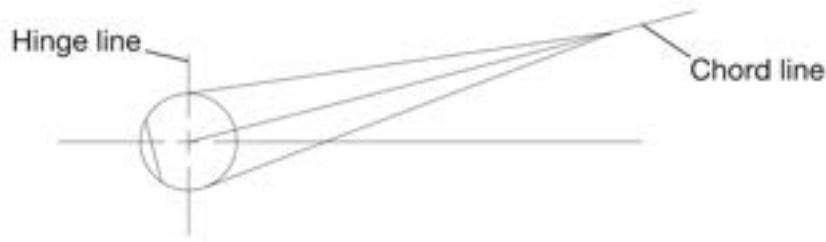

Figure 3
- A. Overbalance (refer to Figure 3) is defined as the condition that exists when surface is leading edge heavy and is defined by symbol (-). If the balance beam uses a sliding weight, the weight must be on the trailing edge side of the hinge line (to balance the control surface), the control surface is considered to be overbalanced.